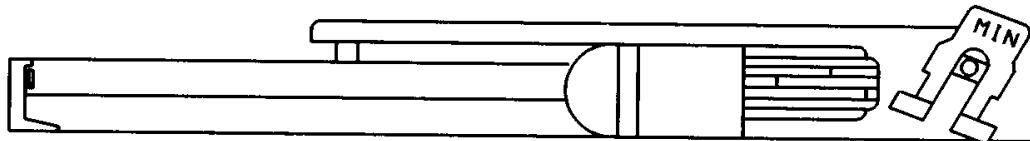

FIGURE 2
5. FLIP THE ADJUSTMENT KNOB ON THE GS2B TENSIONING TOOL SO THAT THE "MIN" SIDE IS FACING DOWNWARD, AS SHOWN IN FIGURE 2.